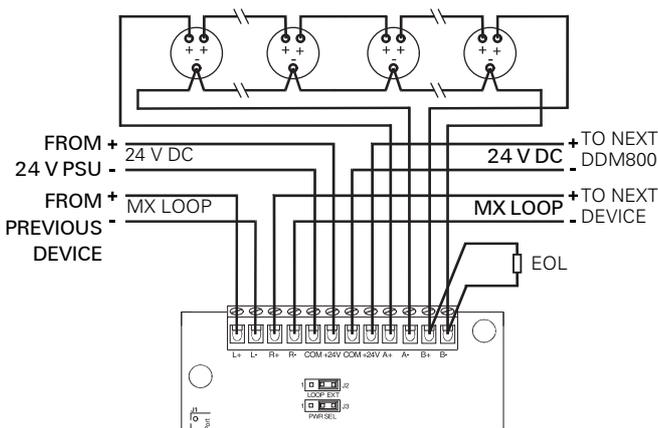

Fig. 10: Loop circuits (Class A wiring) with external 24 V
- 5 For Class A wiring (see Fig. 10), detector circuit A is used, the return is to circuit B which is fitted with the EOL.